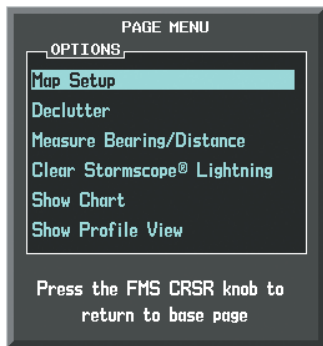

Figure 6-120 Navigation Map Page Menu
- 3) With 'Map Setup' highlighted, press the **ENT** Key (Figure 6-120).